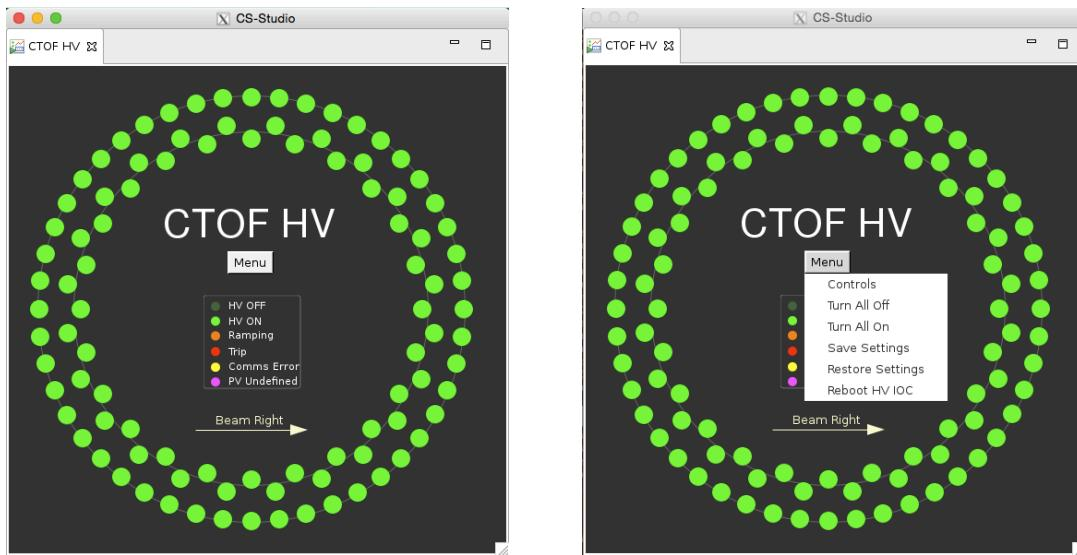
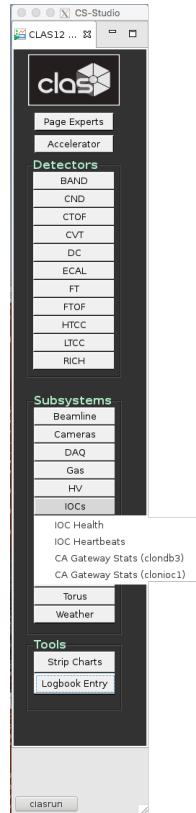
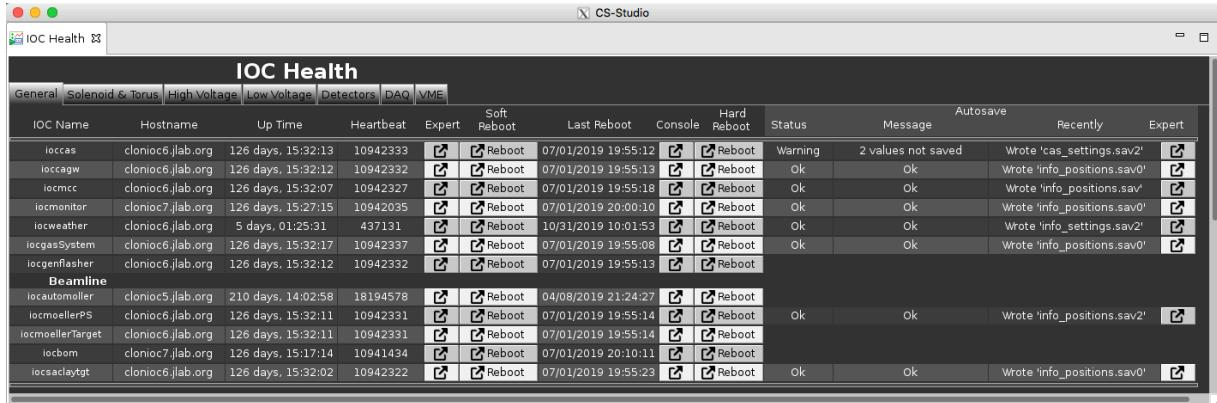
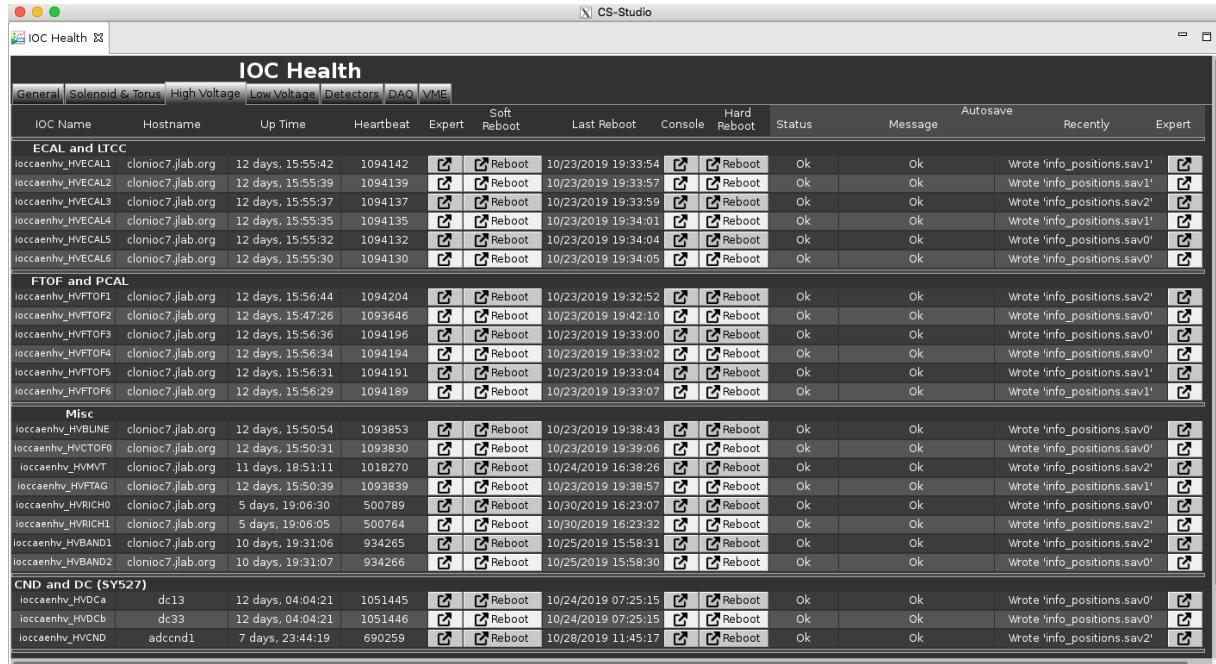

Figure 8: CTOF HV display and control interface. The right figure shows the “Menu” options available.
Figure 13: Sub-menu on the primary Slow Controls interface to reboot the IOCs.
Figure 14: IOC health screen for access to all Hall B IOCs.
Figure 15: IOC health screen where individual IOCs that control the HV mainframes can be rebooted.
To bring up the CTOF HV controls, click on the “CTOF” button on the subsystem list. This pops up a sub-menu of all Slow Controls subprograms for the CTOF system (see Fig. 7(right)). Clicking the mouse on the “CTOF HV” option brings up the HV control interface for the CTOF system as shown in Fig. 8(left). This interface allows for HV operations at two functionality levels:
The HV Control Interface screen (see Fig. 8) also provides a color key to indicate the channel status:
1. To turn the HV for all system PMTs on or off. This is accomplished by clicking the “Menu” button in the middle of the display. This pops up a sub-menu with the relevant options “Turn All Off” or “Turn All On” (see Fig. 8(right)).
If the “Controls” option shown in Fig. 8(right) is selected, a “novice” window is opened as shown in Fig. 11. This window shows the monitored channel voltage and current ( $V_{mon}$  (V) and  $I_{mon}$  ( $\mu$ A)), the channel status (OFF, ON), and the set channel voltage and current ( $V_{set}$  (V) and  $I_{set}$  ( $\mu$ A)). If desired, shift workers can toggle the HV settings for single channels on or off through this interface.
If there is a controls problem indicated by the appearance of yellow or magenta channels in Fig. 8, which typically appears for all CTOF PMTs, the usual cause is an issue of communication between the IOC computer and the HV mainframe. To reboot the IOC, click on the “IOCs” button on the Slow Controls panel within the “Subsystems” portion of the interface (see Fig. 7). Fig. 13 shows the options that appear on the sub-menu that pops up. On this menu, select “IOC Health” to open the control window shown in Fig. 14. Clicking on the “High Voltage” tab along the top of the screen brings up the screen for the IOCs that control the HV mainframes as shown in Fig. 15. Click on the “Reboot” button for the HV supply HVCTOF0 (under the “Soft Reboot” column). The reboot will take less than two minutes to complete and the yellow or magenta communication problem channel indicators should all disappear. Note that the IOCs can be also rebooted through the CTOF channel control screen shown in Fig. 8(right). Click on the “Reboot HV IOC” button and answer “Yes” on the dialog box that comes up. If rebooting the IOC does not solve the communication problems, contact the Slow Controls system expert.